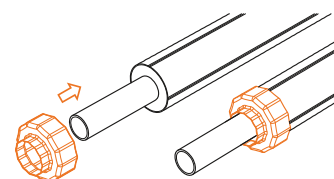

Fig. B10.2.2
3. Slide the Heat Shrink End Cap (or Heat Shrink Sleeve if welding the adaptor to a steel pre-insulated fitting) over the pipe (Fig. B10.2.2).